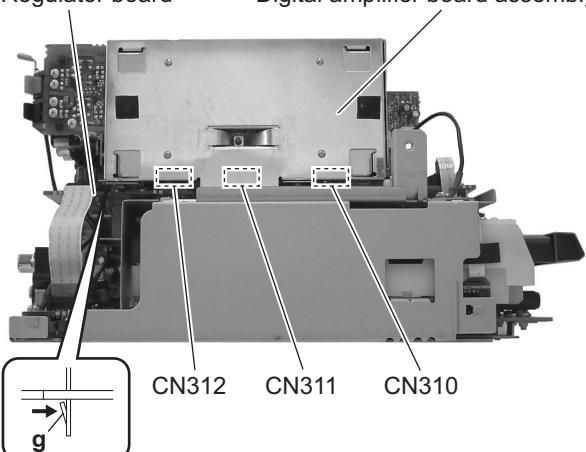

Fig.12
- (2) From the left side of the main body, disconnect the connectors (**CN310**, **CN311**, **CN312**) on the digital amplifier board assembly from the regulator board. (See Fig.12.)
- (3) Release the joint **g** of the shield case B in the direction of the arrow and take out the digital amplifier board assembly from the regulator board. (See Fig.12.)